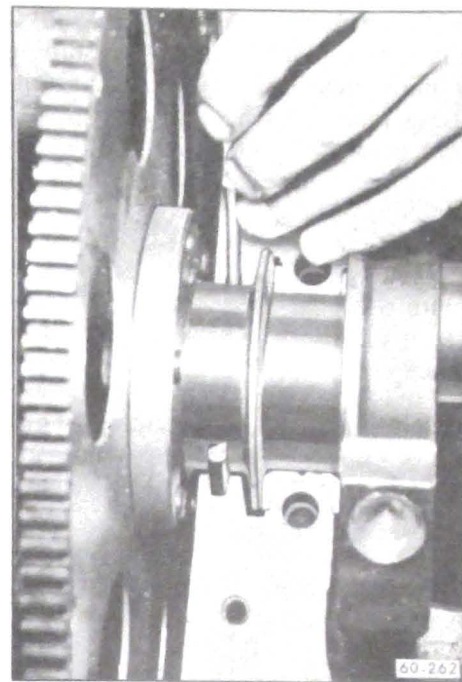

Figure 60-123 - Removing Rear Main Oil Seal (Upper)
4. To remove the upper half of the seal, use a small hammer to tap a brass pin punch on one end of seal until it protrudes far enough to be removed with pliers. See Figure 60-123.